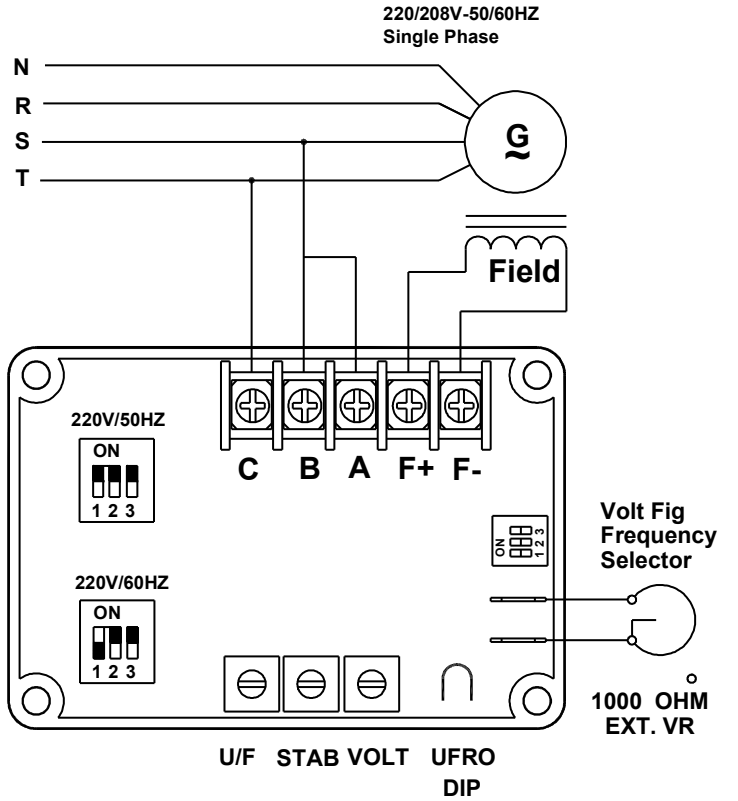

Fig. 3
1. When the rated voltage of the generator is 200-250VAC, the input terminals B&C and sensing terminals A&C are connected to the same generator phases (as in figure 3 factory setting), or can be connected independently as shown as figure 2.